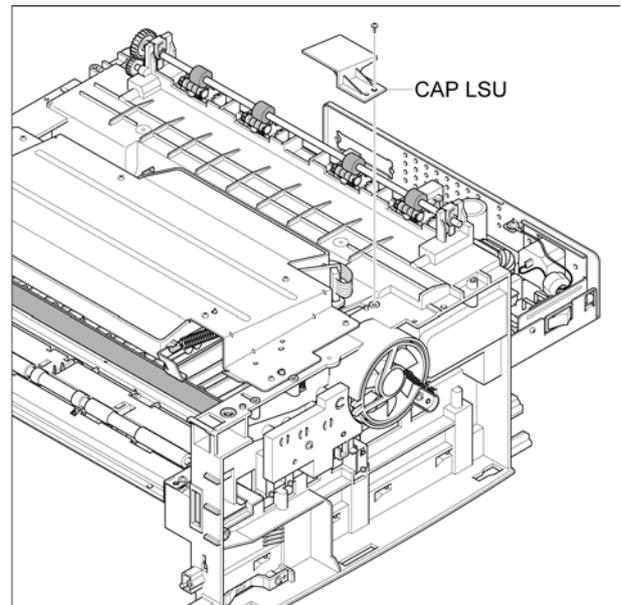

Figure 1
3. Remove 1 screw, then the CAP LSU, Figure 1.